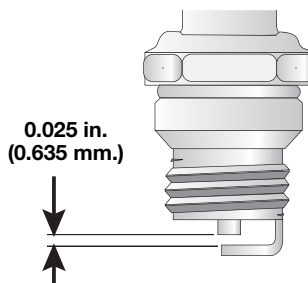

Fig. 38
4. Replace cracked, fouled or dirty spark plug. Set the spark gap at 0.025 in. (0.635 mm.) using a feeler gauge (Fig. 38).